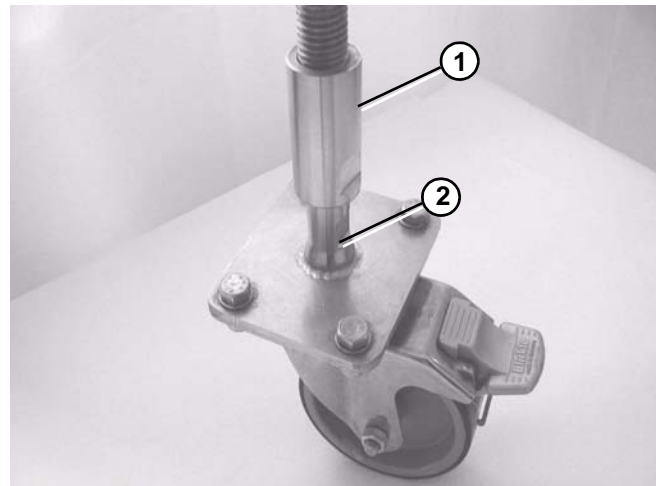

Figure 25
1. Loosen nut/thread cover on caster stem (**Figure 25, item 1**).
2. Rotate the caster stem using an adjustable wrench on the caster stem flats (**Figure 25, item 2**) to raise or lower the stand to the desired height.